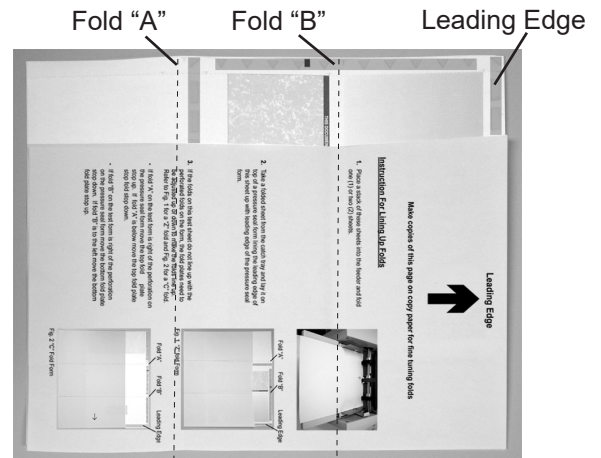

Fig. 6 "Z" fold Form
1. Place a stack of these sheets into the feeder and fold one (1) or two (2) sheets.
3. If the folds on this test sheet do not line up with the perforated folds on the form, the fold plates need to be adjusted up or down to make the folds line up. Refer to Fig. 6 for a "Z" fold and Fig. 7 for a "C" fold.